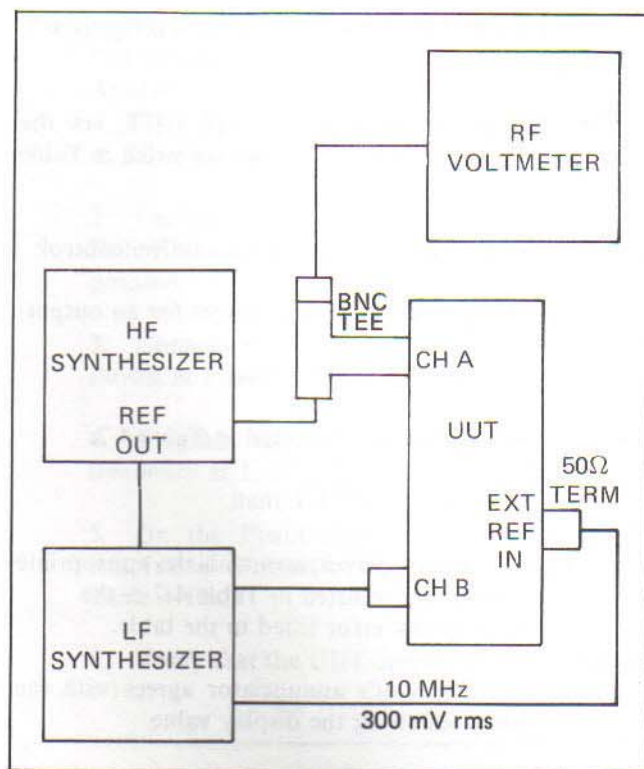

Figure 4-4. Ratio A/B Check
3. Connect the equipment in the configuration shown in Figure 4-4.